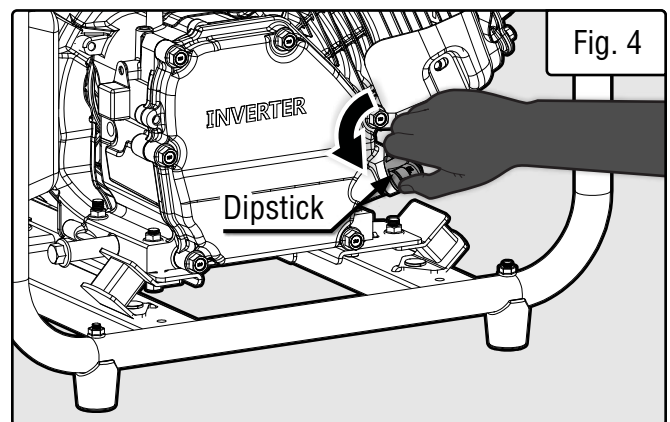

Fig. 4
2. Unscrew the oil dipstick (Fig. 4) from the engine.